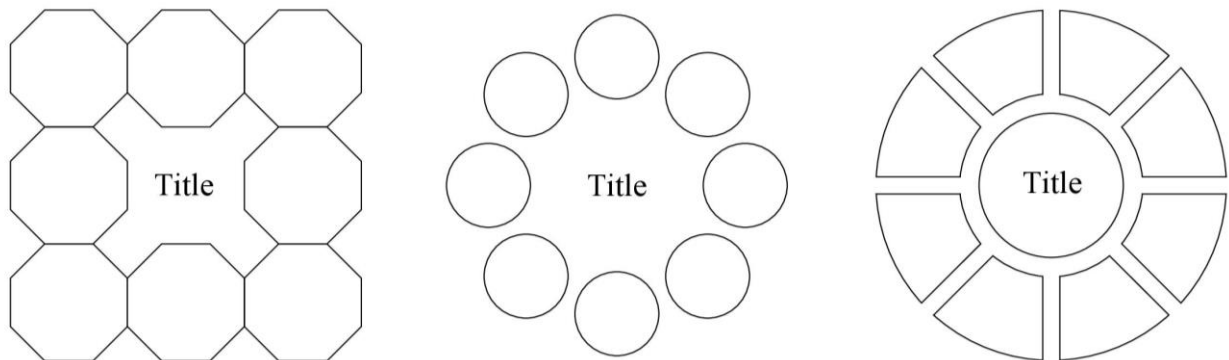

Figure 3
- Examples of infographic chart layouts are shown in Figure 3.